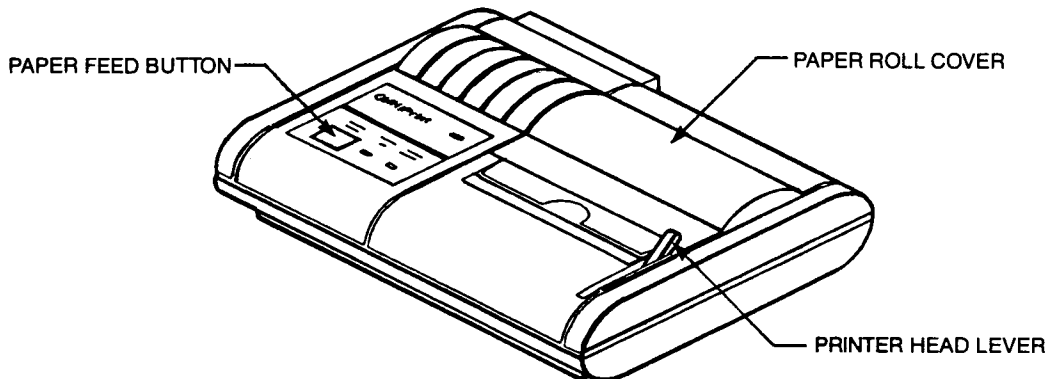

Figure 1-17. Loading Printer Paper
2. Open the paper roll cover (see Figure 1-17). Place the printer paper in the curve of the paper roll cover, with the paper rolling off the bottom of the roll toward the printer. Insert the paper under the rubber platen until the edge appears on the top of the platen.